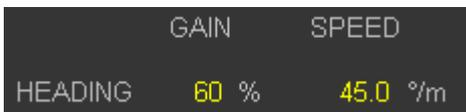

Figure 50: Heading Speed Display
1. Locate the Heading Speed Display and input box at the lower left side of the screen (*Figure 50: Heading Speed Display* on page 61).